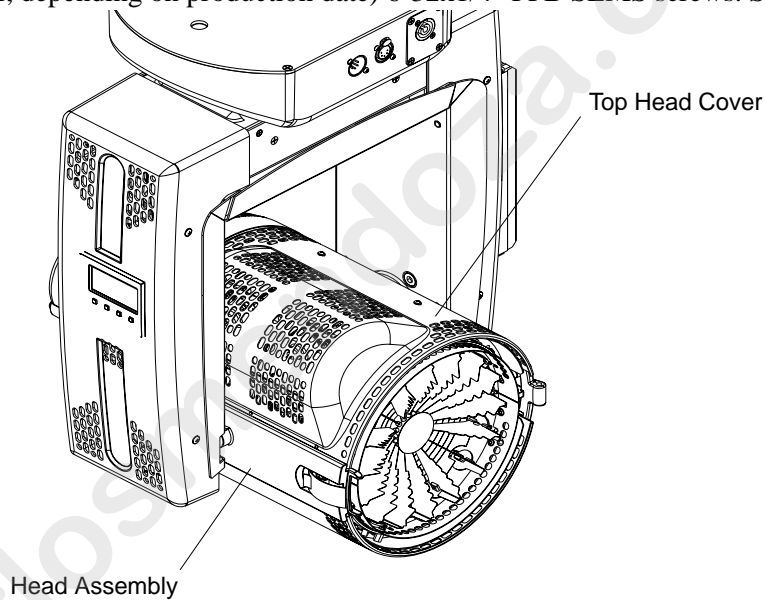

Figure A-4: VL550CD Luminaire Head Cover
- a. At luminaire head, remove top head cover (as indicated in Figure A-4) by removing two (or four, depending on production date) 6-32x1/4" PPB SEMS screws. Set aside.